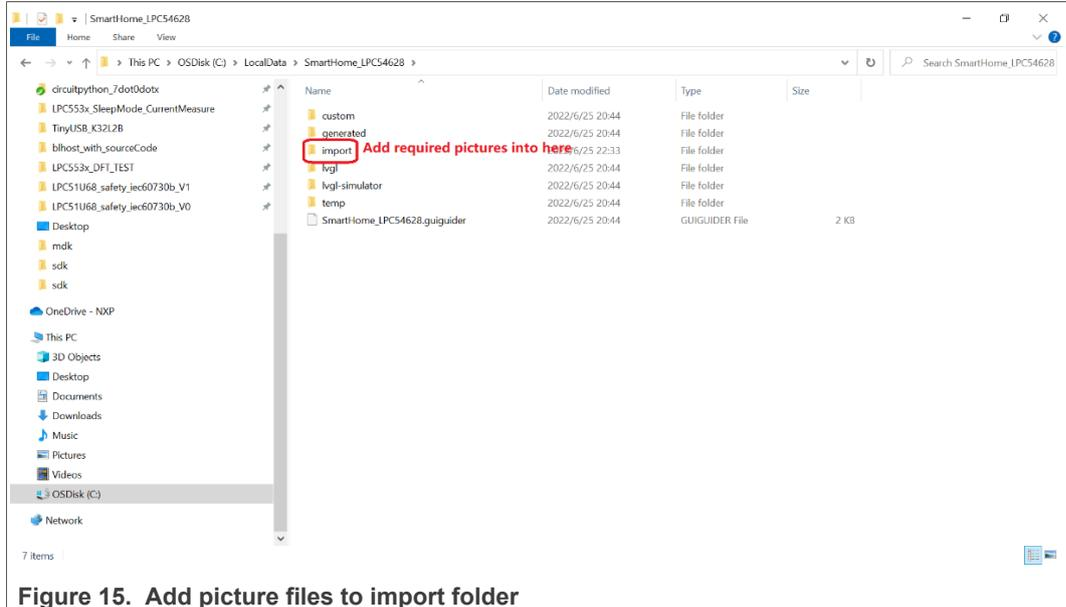
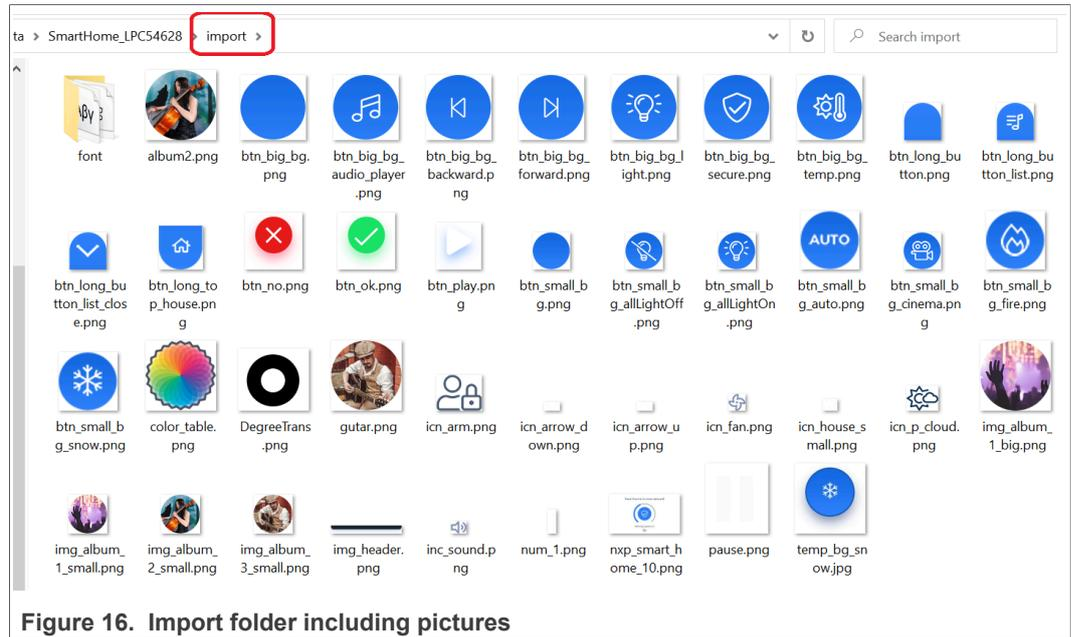

Figure 15. Add picture files to import folder
Figure 16. Import folder including pictures
**Note:** For widgets that require image path, before specifying the image for the widget, add the required image files to the import folder, as shown in Figure 15 and Figure 16.